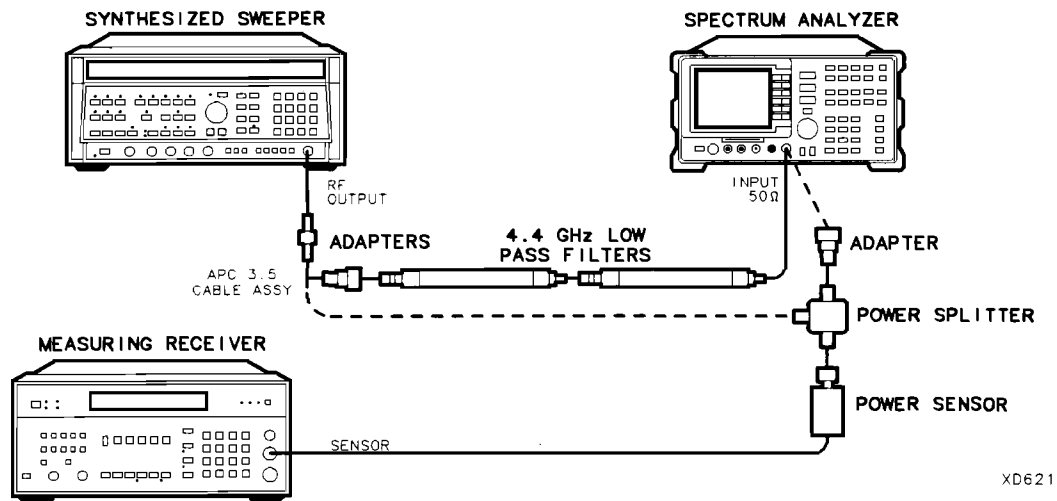

Figure 2-57. Second Harmonic Distortion Test Setup, >2.9 GHz
13. Connect the equipment as shown in Figure 2-57, with the output of the synthesized sweeper connected to the input of the power splitter, and the power splitter outputs connected to the spectrum analyzer and the power sensor.
24. Connect the equipment as shown in Figure 2-57 with the filters in place.